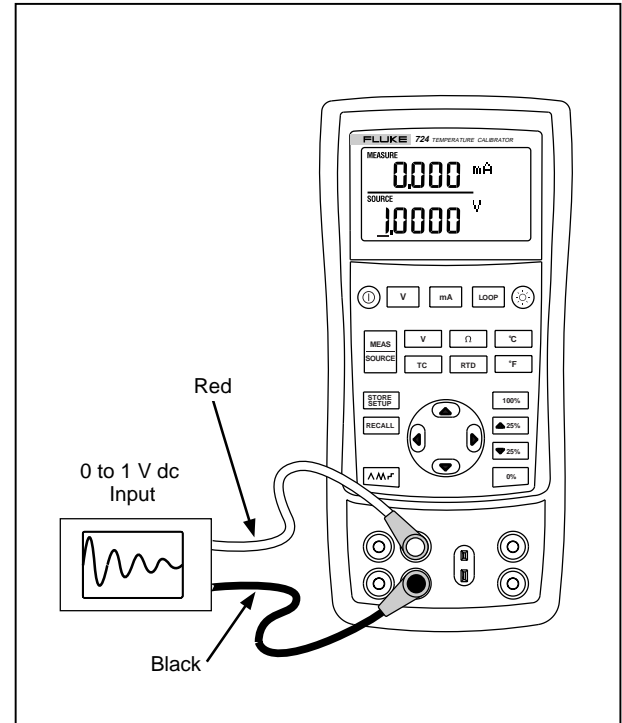

Figure 15. Calibrating a Chart Recorder
1. Connect the test leads to the instrument under test as shown in Figure 15.